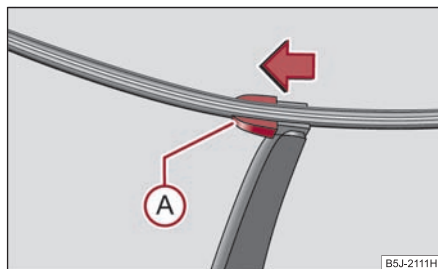

Fig. 62 Wiper blade for rear window
- Fold windscreen wiper arm out from the windscreen and position the wiper blade at right angles to the wiper arm ⇒ **fig. 62**.